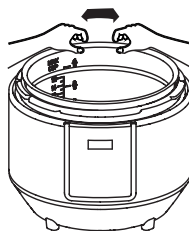
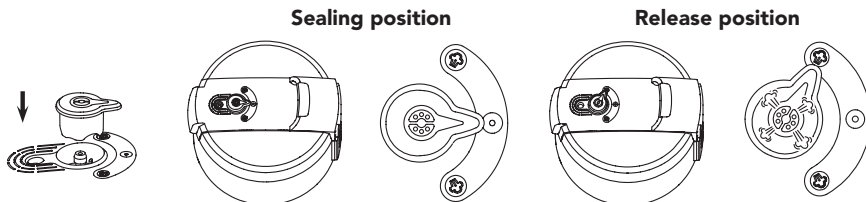

FIG 3 How to remove/install the pressure release valve
FIG 4 How to remove/install the sealing ring
- C. Remove the inner cooking pot (Fig 2), the pressure release valve (Fig 3), the sealing ring (Fig 4) and wash in hot soapy water with all other accessories. Dry thoroughly.
NOTE: Ensure the sealing ring is properly installed before operating. Do not operate the sealing ring is damaged. Refer to Fig 4.
5. Position the pressure release valve to the "sealing" position . Refer to Fig 3.
2. Remove the sealing ring from under the lid. Rinse in hot water. Rinse and dry thoroughly. Refer to Fig.4